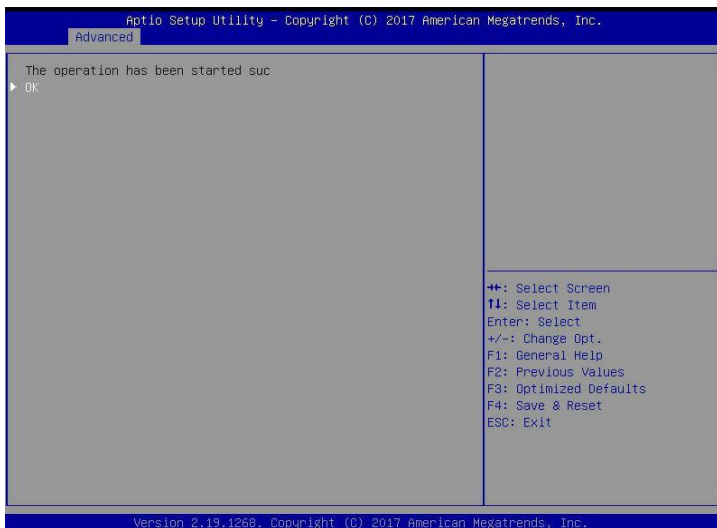

Figure 6-99
i) Enter the interface shown in Figure 6-99, select OK, and press Enter.
✧ Figure 6-99 Select OK